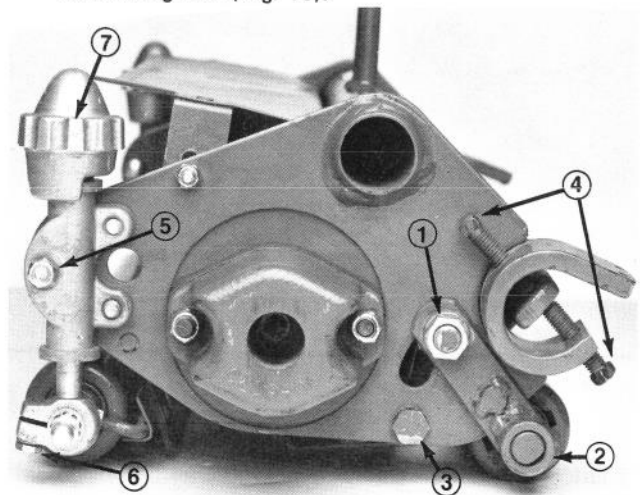

Figure 10
1. Remove capscrew and nut anchoring the rear roller height-of-cut bracket to the side plate on both ends of the cutting unit (Fig. 10).
| 2. Loosen Allen set screws anchoring the roller shaft (Fig. 10). | 6. Roller Shaft Clamp Bolts |
4. Remove the bedbar mounting bolts from each end of the cutting unit (Fig. 10). Then loosen the bedknife adjusting screws at each end of the cutting unit (Fig. 10). The bedknife assembly can then be removed by rotating it away from the reel.
1. Loosen the locknuts securing the height of cut adjusting rods at both ends of the cutting unit and the roller shaft clamp bolts (Fig. 10).
2. Turn the height of cut adjustment knobs until they are disconnected from the height of cut adjusting rods (Fig. 10). The knobs are captivated on the upper washer face of height of cut clamp.